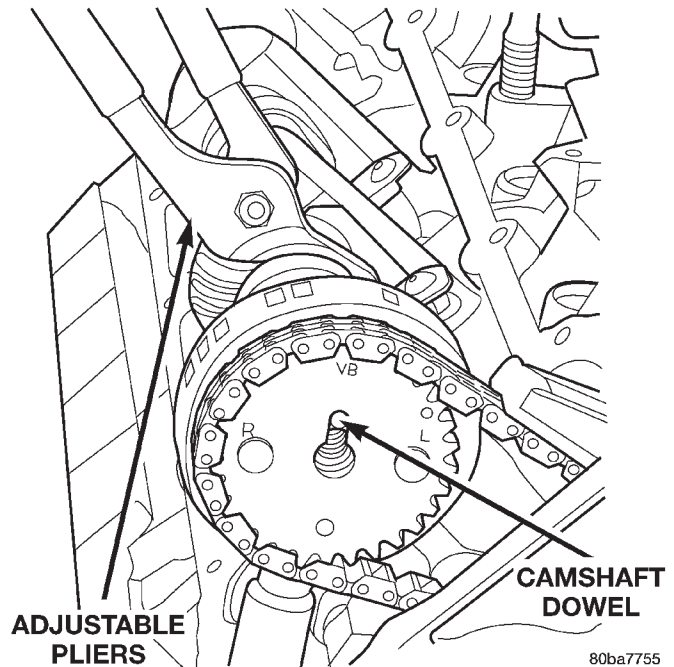

Fig. 67 Camshaft Rotation—Right Side
- (15) While holding the right camshaft steel tube with adjustable pliers, (Fig. 67) remove the right camshaft sprocket. Slowly rotate the camshaft approximately 45 degrees counterclockwise to a neutral position.
- (16) Remove idler sprocket assembly bolt.